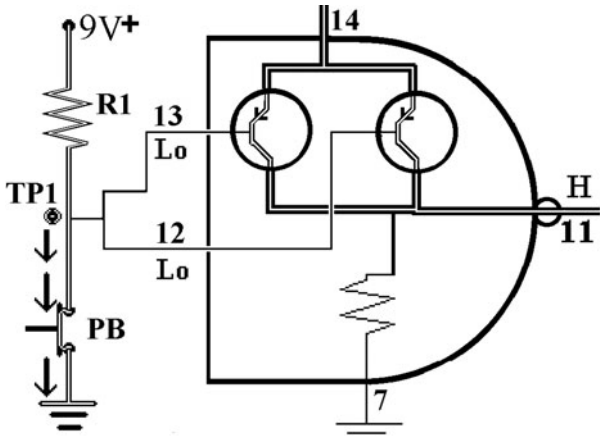

Figure L19-3
- Figure L19-3 shows that when you close the push button, the voltage through R1 flows directly to ground. Like water, the voltage and current always takes the easiest path.